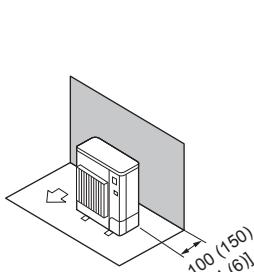

Fig. 2-6
① Obstacles at rear only (Fig. 2-6)